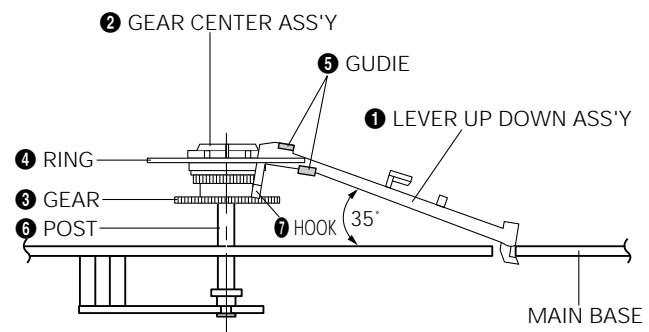

Fig. 1-21 Assembly of Lever Up Down Ass'y, Gear Center Ass'y
- 1) Insert the Lever Up Down Ass'y **①** in the 2 rectangular holes on Main Base.
- 2) Lift the Lever Up Down Ass'y **①** about 35 degree. (Refer to Fig. 1-21)
- 3) Insert Ring **④** of the Gear Center Ass'y **②** in the Guide **⑤** of the Lever Up Down Ass'y **①**.
- 4) Insert the Gear Center Ass'y **②** in the post **⑥** on Main Base.
- 5) Push down the Lever Up Down Ass'y **①** for locking of the Hook **⑦**.